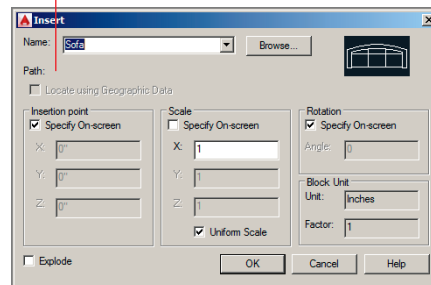

FIGURE 9.11 Examining the preview of the local block definition in the Insert dialog box
5. Click the Insert tool in the Block panel. Open the Name drop-down, and select `Sofa` in the list. The preview image in the upper right shows that the local block definition is based on the curved-back design (see Figure 9.11).